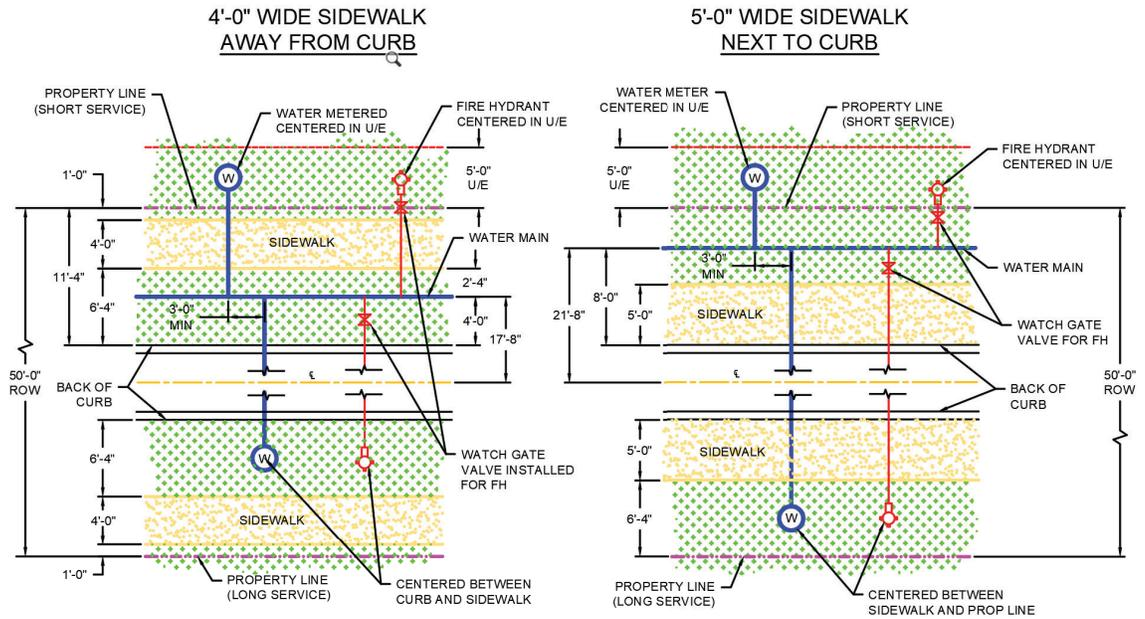
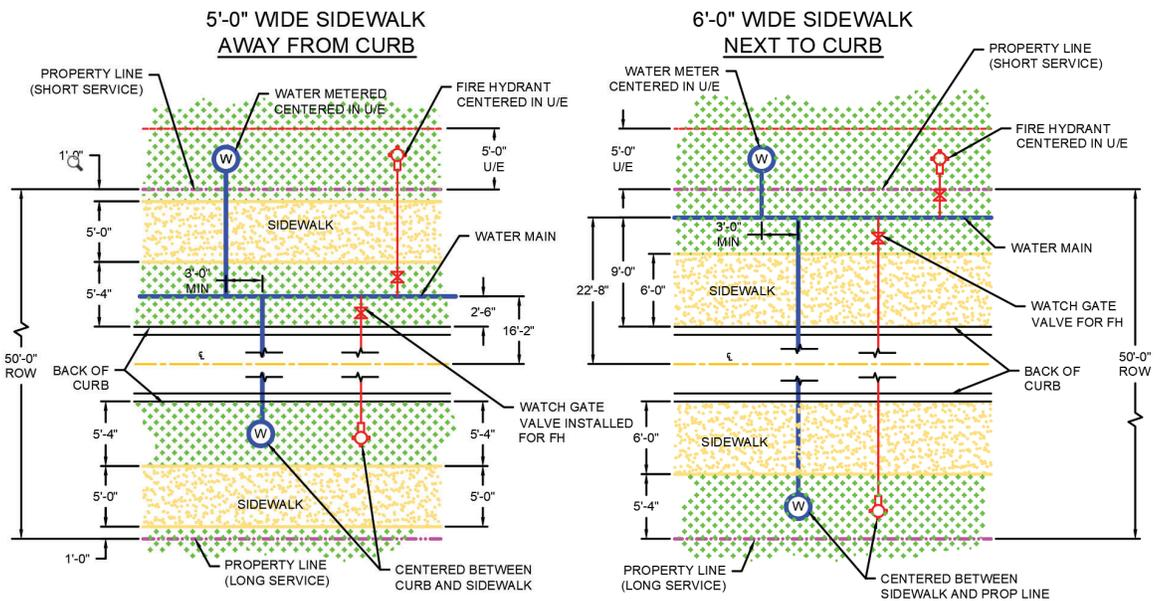

Figure 2 - Typical Residential Development Water Main Installation
Figure 3 - Typical Section Line & Commercial Industrial Water Main Installation
3.9. Water mains must be installed as shown in Figure 2 in residential developments. Water mains installed along section line roads or in industrial or commercial developments must be installed as shown in Figure 3. Exception to this installation must be expressly noted and approved by the Private Development Manager.